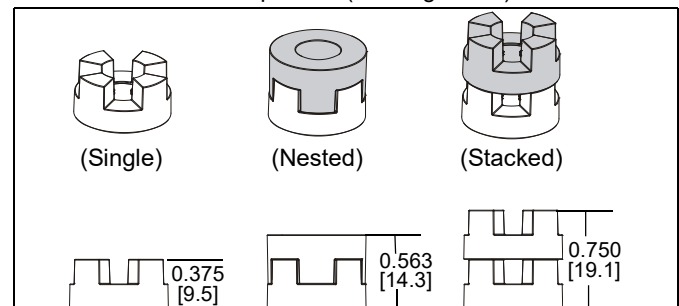

Figure 27
NOTE: The nesting spacers (M) may be used separately, or put two together in different configurations to create different size spacers. (See Figure 27)